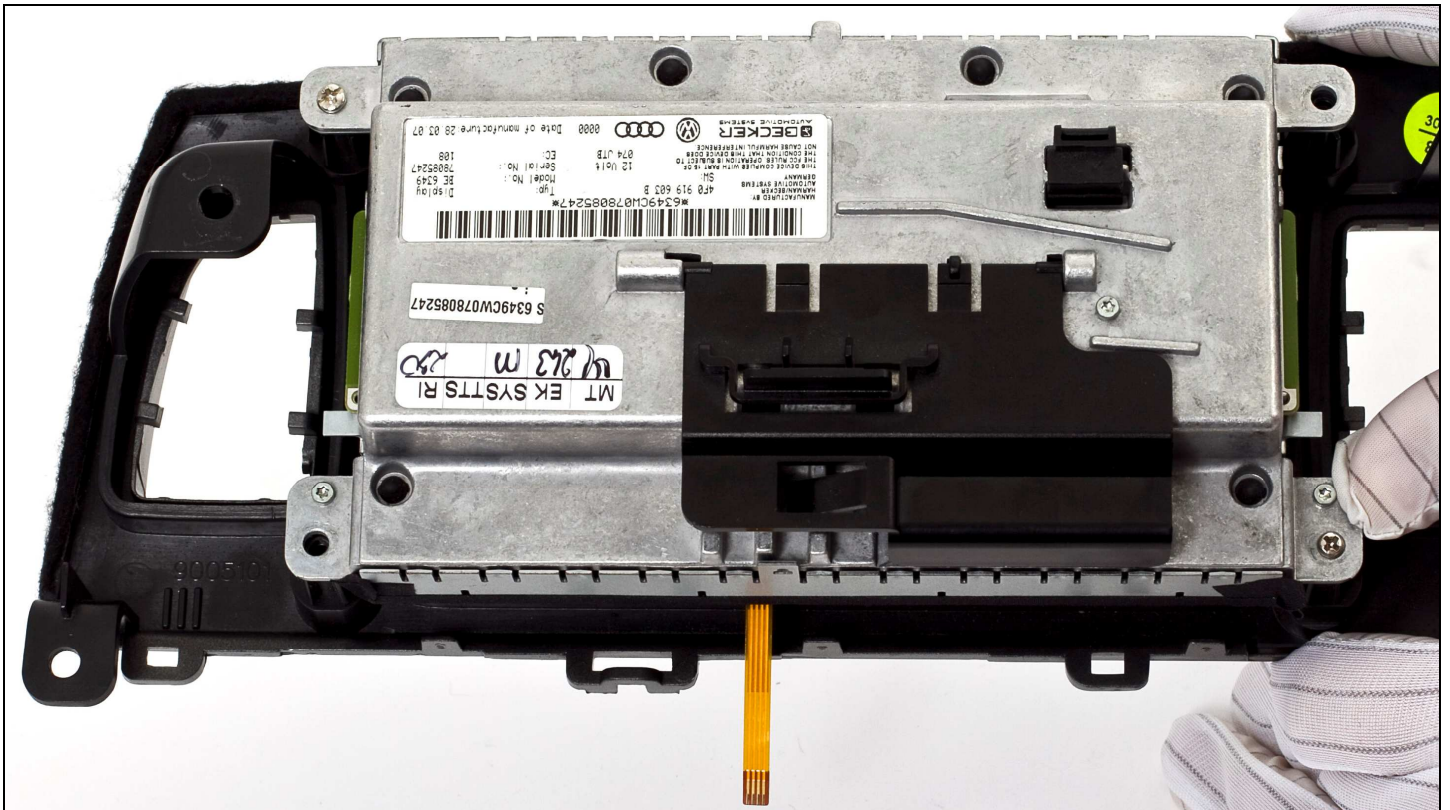

Figure 15
- Mount the display in its original position (Fig. 15)